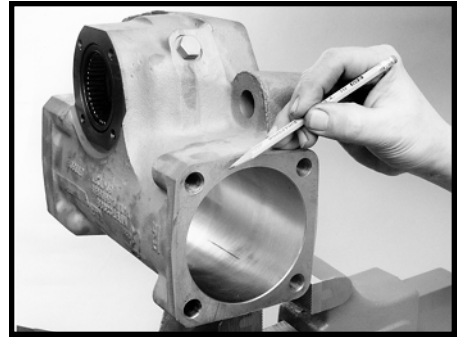

Figure 93
5. Inspect the housing (19) faces for nicks that would prevent proper sealing. Replace the gear housing if these nicks are present and cannot be easily removed with a fine-toothed flat file without changing the dimensional characteristics. SEE FIGURE 93.